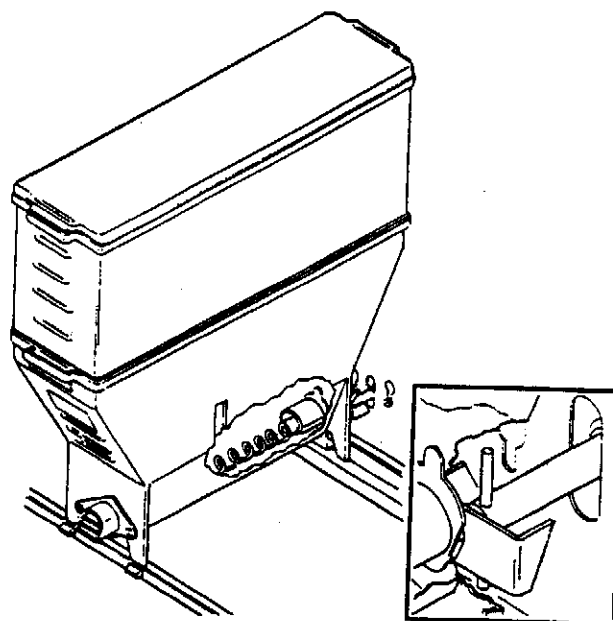

FIGURE 3
8. Remove all shipping tape and packing from the ingredient canisters and check that they are installed in their respective places on the canister rack. Be sure the auger driver and motor drive pin are engaged (Fig. 3). The tabs on the front and back of the canisters fit in their respective slots.